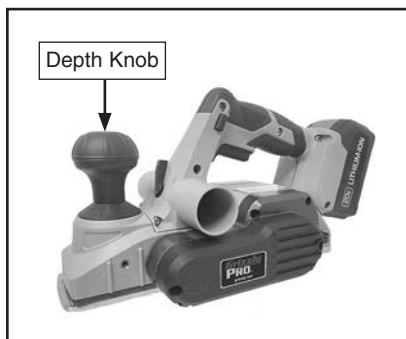

Figure 8. Location of depth knob.
1. Rotate depth knob clockwise to increase planing depth, and counterclockwise to decrease planing depth (see **Figure 8**).